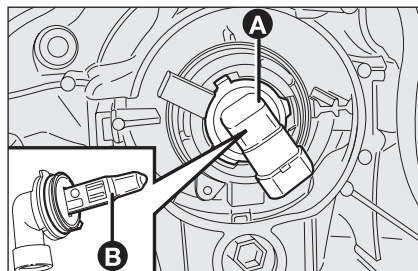

fig. 17
- turn connector **A**-fig. 17 counter-clockwise and remove it;
- remove the bulb **B**-fig. 17 and fit the new bulb.